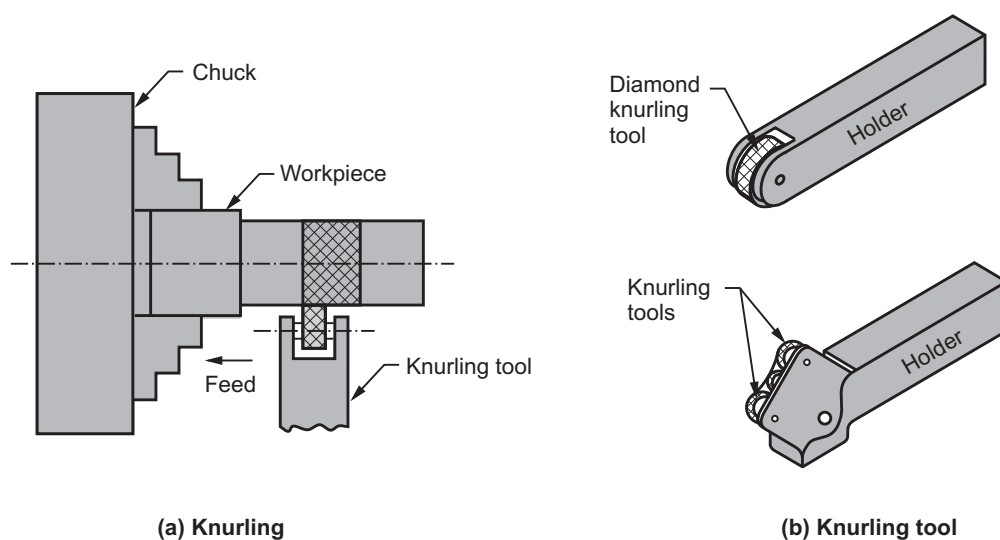

Fig. 5.14
- The tool used for knurling is termed as **knurling tool**, which consists of a straight shank fitted with one or two knurling wheels at its front. Refer Fig. 5.14 (a) and (b).